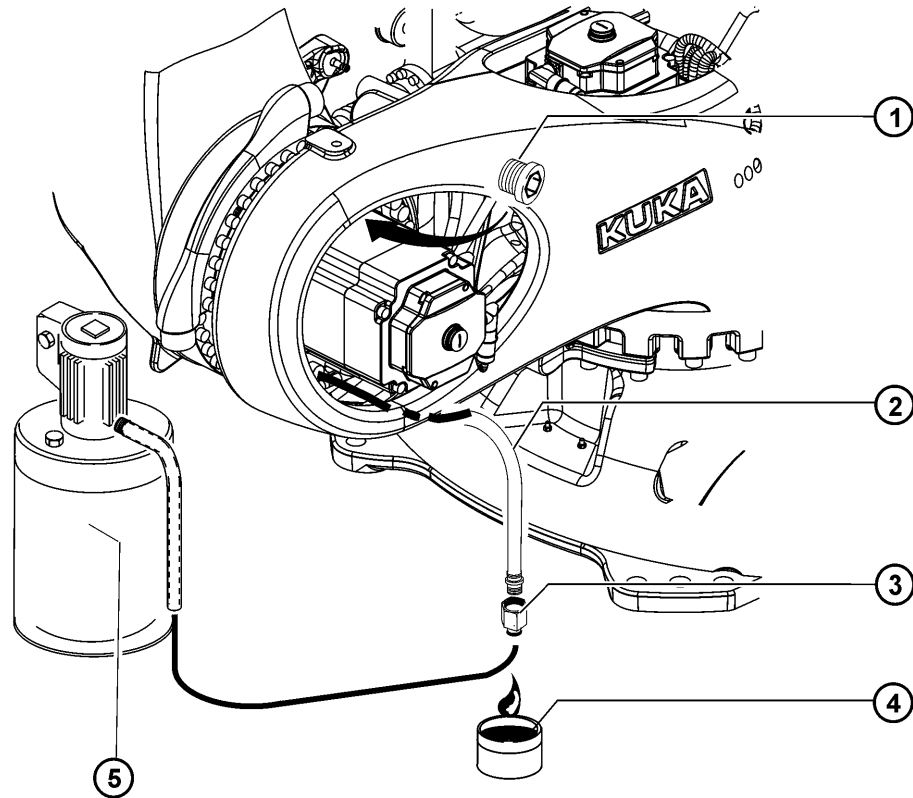

Fig. 9-3: Oil change, A2
1. Pull the oil drain hose (>>> Fig. 9-3) out of the rotating column.